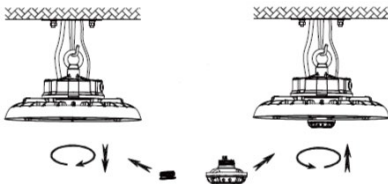

Fig. 6
- Insert the sensor into the hole and screw clockwise ensuring a tight seal is made to maintain the IP rating (see Fig. 6)